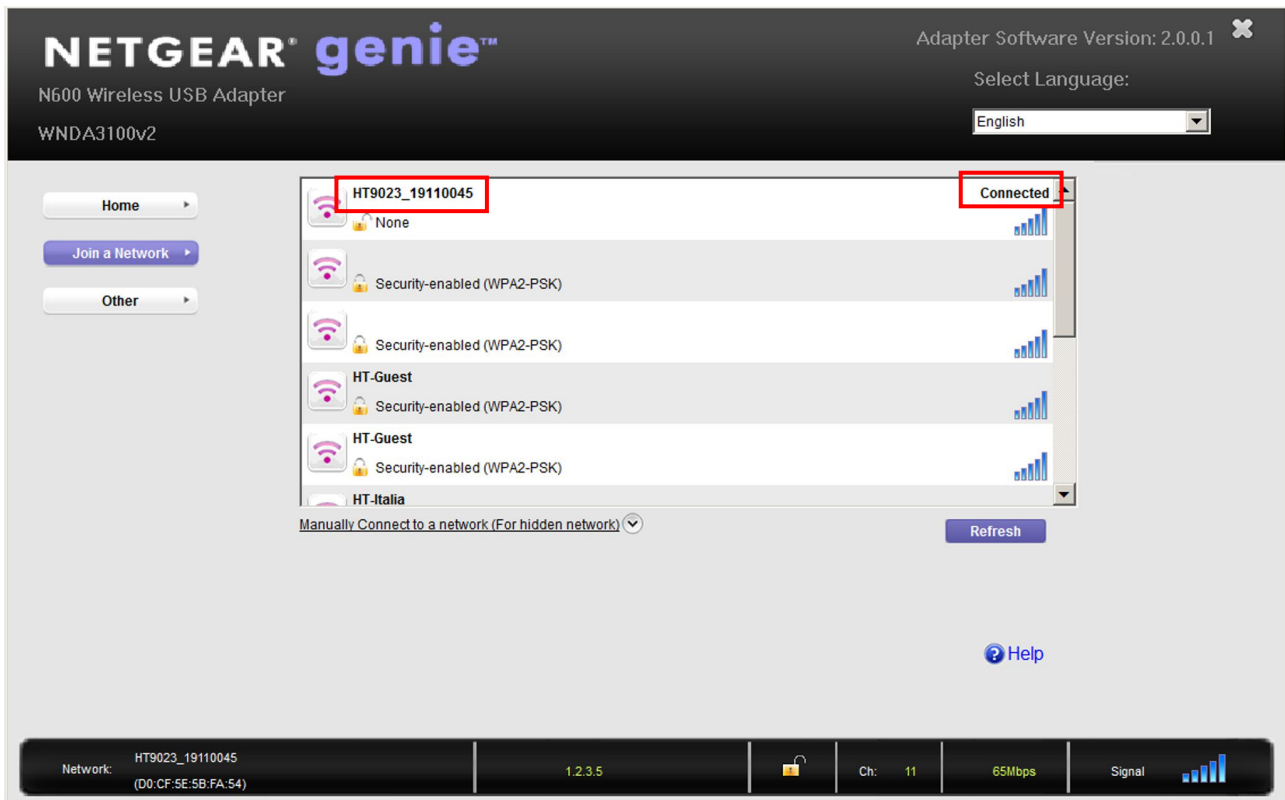

Fig. 15: WiFi connection of instrument to PC (example)
5. Search for the “HT9023_xxxxxxxx” instrument in the WiFi device included on the PC and connect it as shown **as an example** in the following Fig. 15